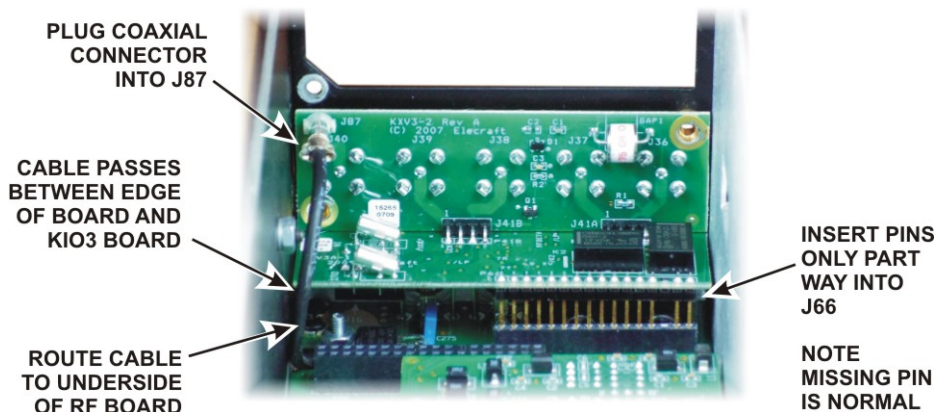

Figure 8. Mounting KXV3A Board.
- ☐ Fit the TMP coaxial connector onto J87 on the KXV3A board assembly (see Figure 8).
- ☐ Thread the square connector on the TMP cable through the gap between Q3 and the side of the RF board, then plug the KXV3A board assembly into J66 on the RF board with the BNC connectors facing out through the rear panel (see Figure 8). The pins will just clear the top of J66 when the BNC connectors are up against the top of the opening in the rear panel.